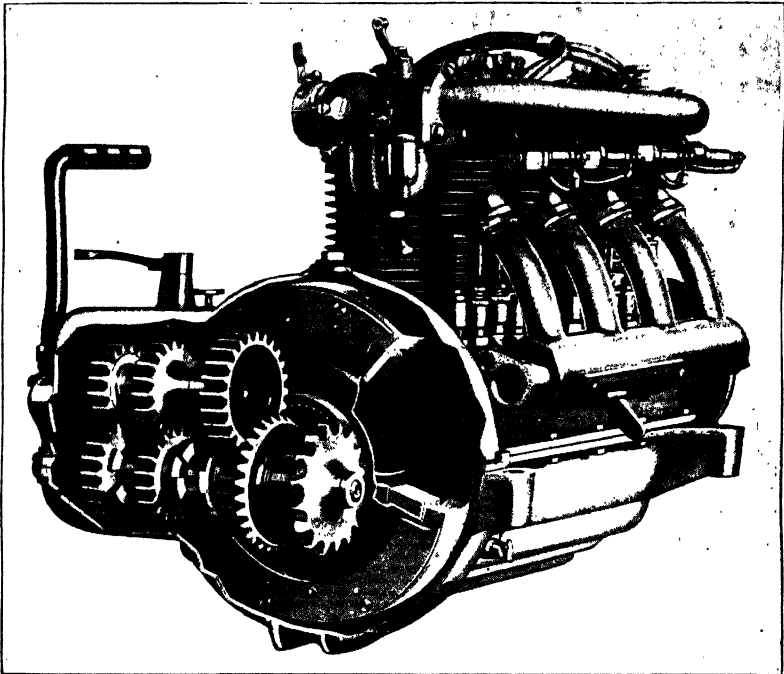

Fig. 32. Rear View of Henderson Four-Cylinder Engine and Transmission
*Four-Cylinder Type.* Figs. 32 and 33 illustrate the Henderson four-cylinder motor-